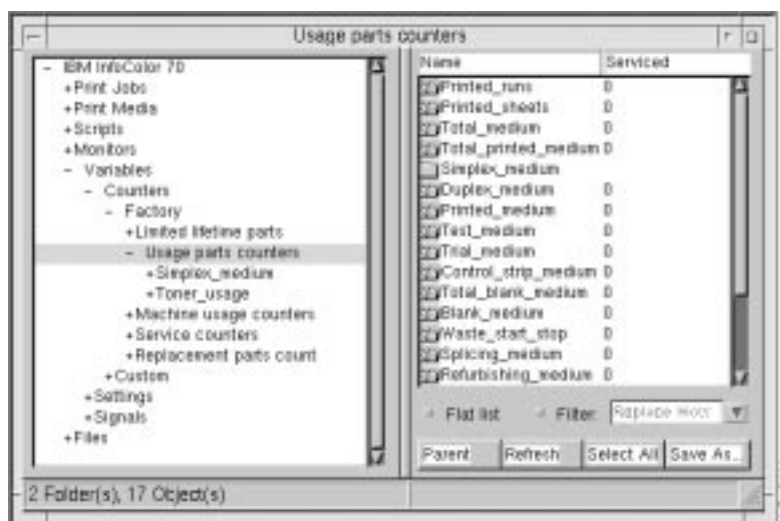

Figure 181. Usage Parts Counters Window
- 1 To look at the usage parts counters, open the **Counters** window, as shown in Figure 181.
- 3 Click again on **Usage parts counters** and you will see the counters in the list view or right side of the **Usage parts counters** window, as shown in Figure 181. The counters are described in Table 57 on page 267.
- 1 To look at the usage parts counters, open the **Counters** window, as shown in Figure 181 on page 266.